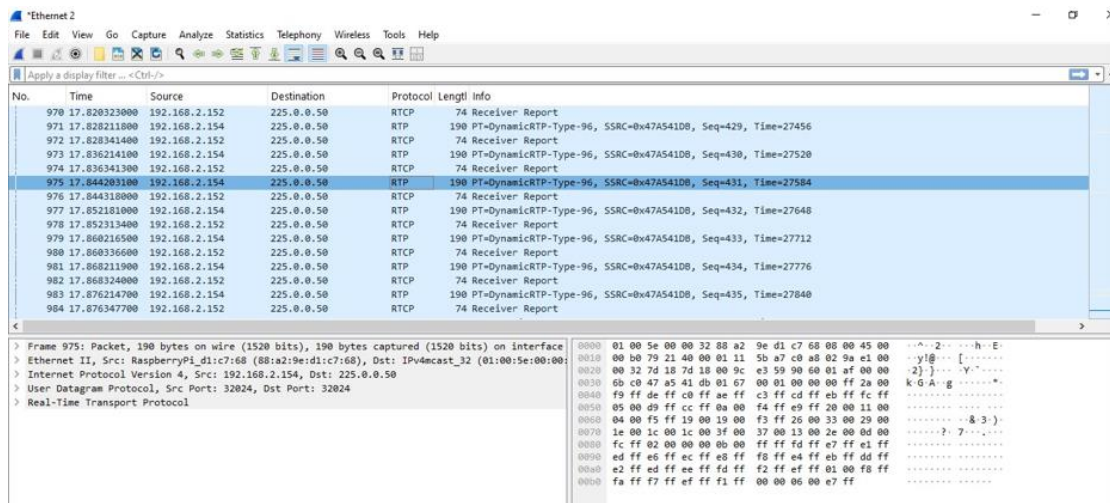

Figure 45: RTP Packet on Wireshark
- 13 Verify that the selected data packet is now decoded as RTP on Wireshark window as shown in Figure 45.